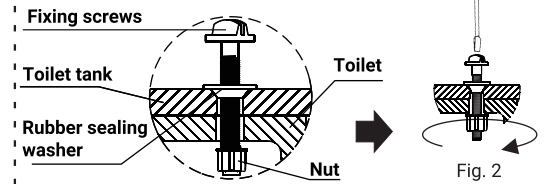

Fig. 2
- Then, align the toilet tank holes along with the toilet tank and place the bolts (comes with the toilet tank). The bolt must be kept locked with the screw driver; thread the nut up to the point it touches the toilet. Fig. 2. We recommend the use of a 1/2" x 12" screw driver.
- 1: Observe the sequence for assembling product. Fig. 2